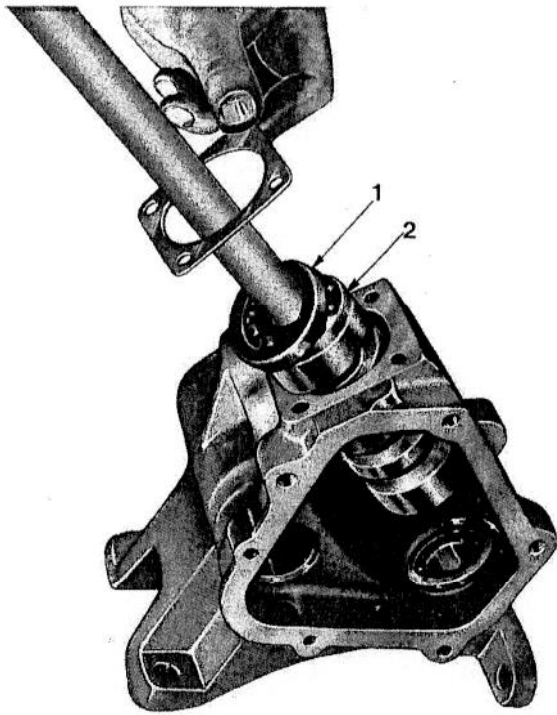

FIG. 8
1. Refit the lower bearing cup (5) and lower bearing to the steering box.
2. (Fig. 8) Position the upper bearing (2) and upper bearing cup (1) onto the steering shaft.